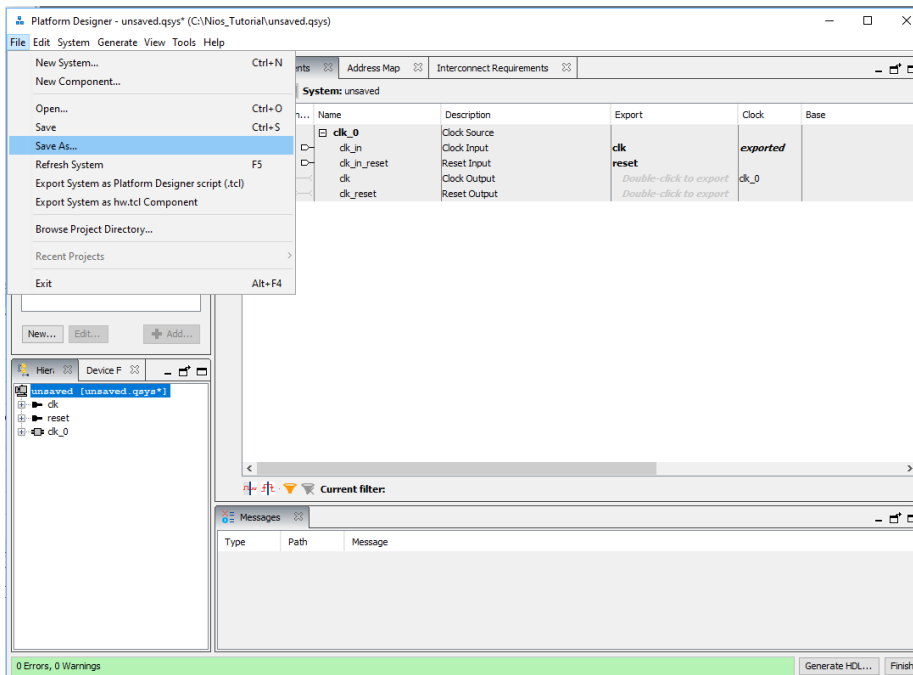

Figure 1-6 Saving new system under our preferred name.
- 5.) After opening the new system, we want to save it under whatever name we choose as in Figure 1-6 and 1-7.